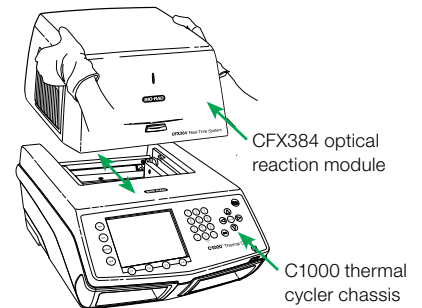

Fig. 1. Lifting the CFX384 optical reaction module onto the C1000 thermal cycler chassis.
2. Remove the instructions overlay from the C1000 chassis. Lift the CFX384 module using the handle indents above the side air vents, as shown in Figure 1.